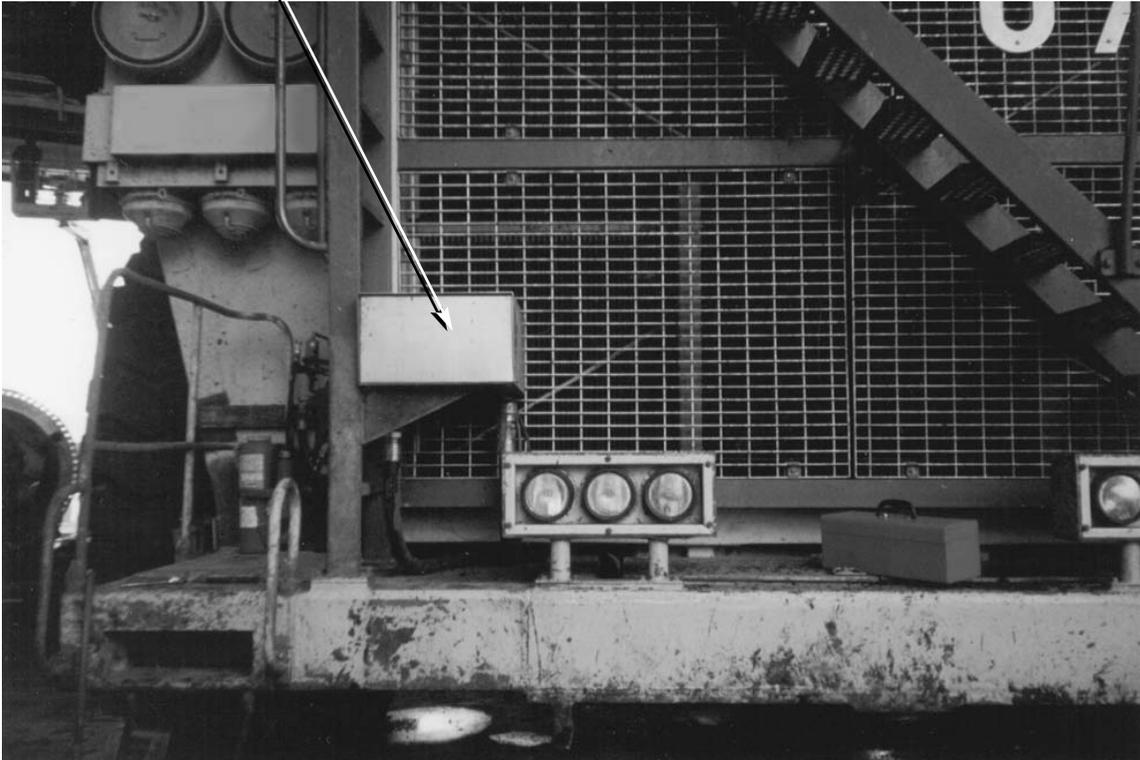

Fig. 5-4: Example of Heater Installation
1. Locate spot to mount heater, refer to fig 5-4, page 5-6